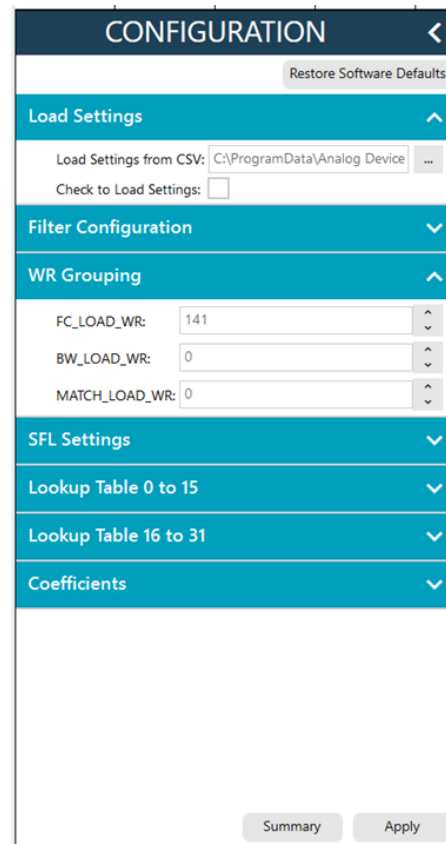

Figure 11. ADMV8526 CONFIGURATION Section
7. Use the **CONFIGURATION** section (see Figure 11) in the ACE software to initialize the chip. By default, the **ADMV8526_Coefficients_Bandwidth_Nominal.csv** file is loaded into this section. Click **Apply** to send the default settings to the chip and to allow the main diagram user controls to become editable.
3. Click the ... button next to **Load Settings from CSV** to select which .csv file to load (see Figure 11).